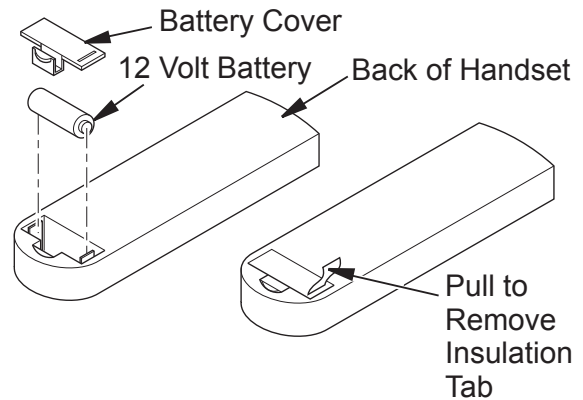

Figure 16 - Installing Battery into Back of Handset
3. Activate remote handset battery by removing insulating tab on back of handset (see Figure 16). Battery is included pre installed.